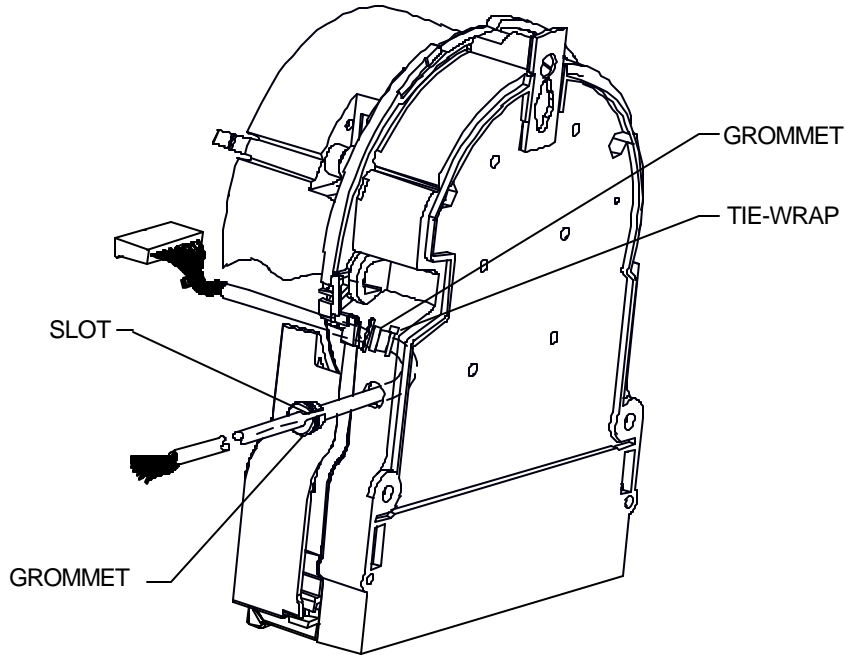

Figure 2-4 A-base I/O Cable
3. Push free end of I/O cable through knockout hole and draw cable through base until the tie wrap is 1-1/2 to 2 inches from the inside wall. See figure 2-4.
5. Push grommet through hole until grommet flange is up against outside wall and undercut is secured against inside wall of base. See figure 2-4.